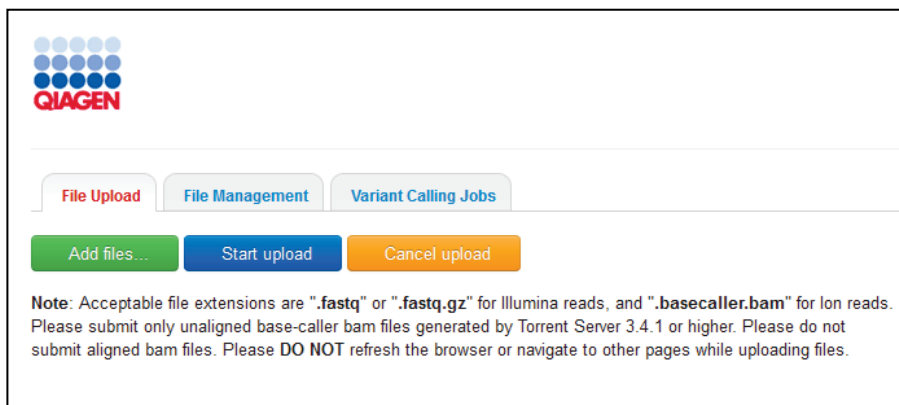

Figure 13. File Upload tab of the QIAseq Targeted Sequencing Data Analysis Portal.
10. On the “File Upload” tab, click “Add files” to upload sequencing files (Figure 13).